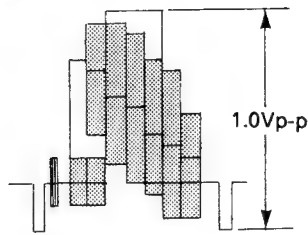

Figure 2-4
- (1) Connect a 75 ohm resistor to the VIDEO OUT jack and hook the oscilloscope across this resistor. (See Note below.)
- (2) Feed the color bar signal to the VIDEO IN jack in the A/V mode.
- (3) Adjust R235 so that the signal amplitude is 1.0 Vp-p as shown in Figure 2-4.